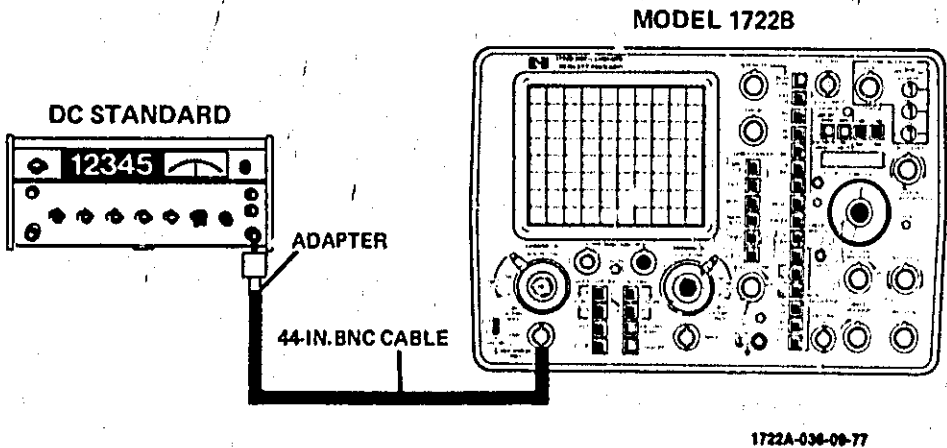

Figure 5-1. Deflection Factor Test Setup
- a. Connect instruments as shown in figure 5-1.
- a. Connect equipment as shown in figure 5-1.